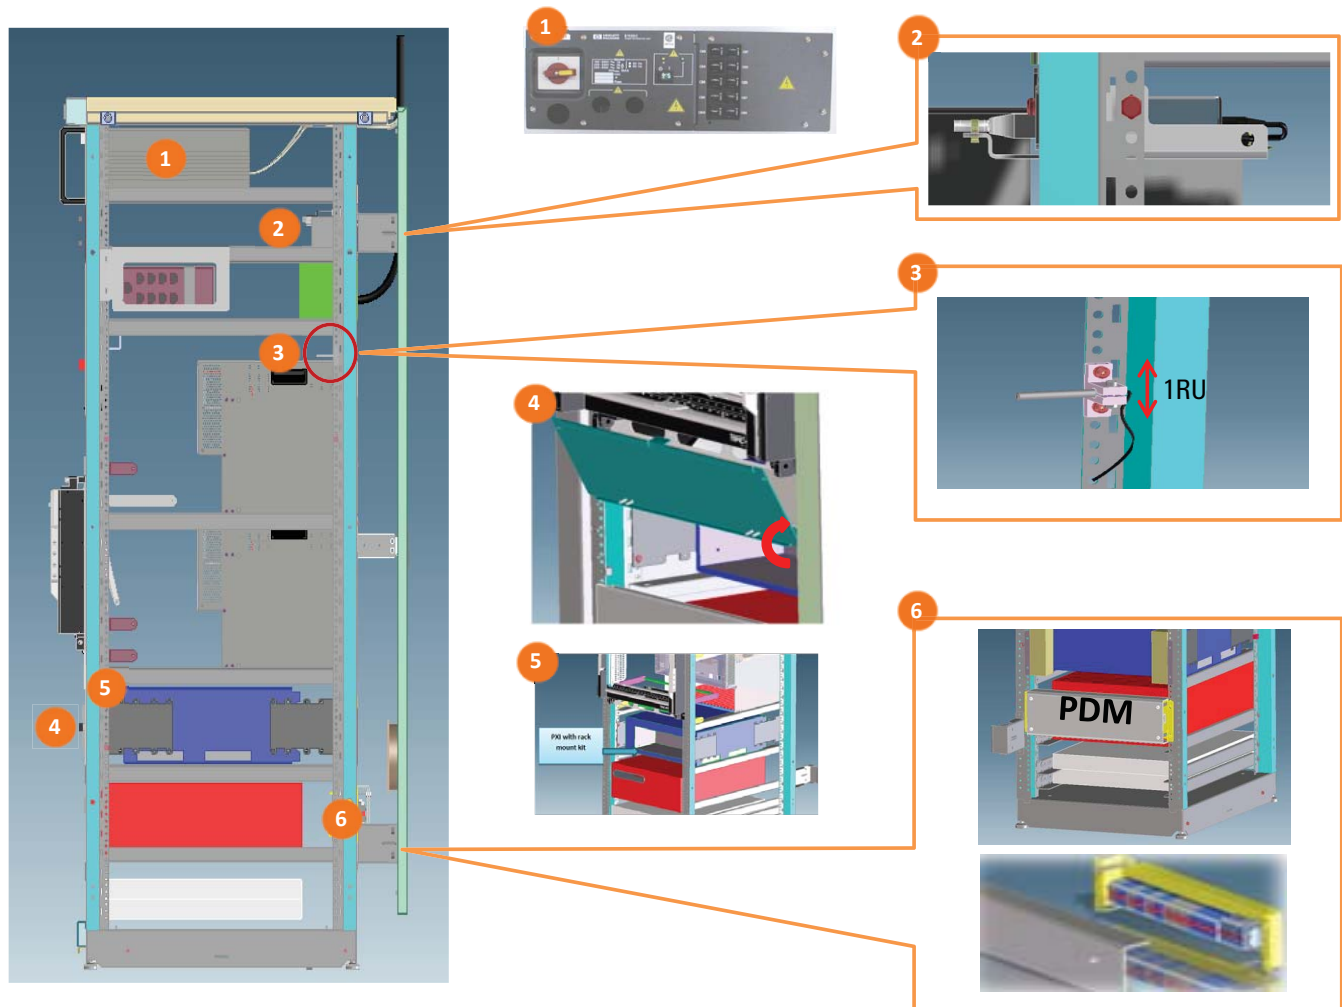

Figure 4. Feature enhancements to the TS-5400, improving system reliability and user ergonomics.
With a built-in thermal and airflow management system, the lifespan of the Agilent TS-5400 PXI Series functional test system is extended, improving the manufacturer's return on invested capital via more efficient testing (see Figures 4 and 5).
The improved user accessibility and ergonomics of the PXI instrument access panel (Figure 4, item 4), PXI mainframe mounting kit (Figure 4, item 5) and power distribution module (Figure 4, item 6) simplifies the test engineers' user experience and shortens the time needed for them to make system configuration changes and provide support .